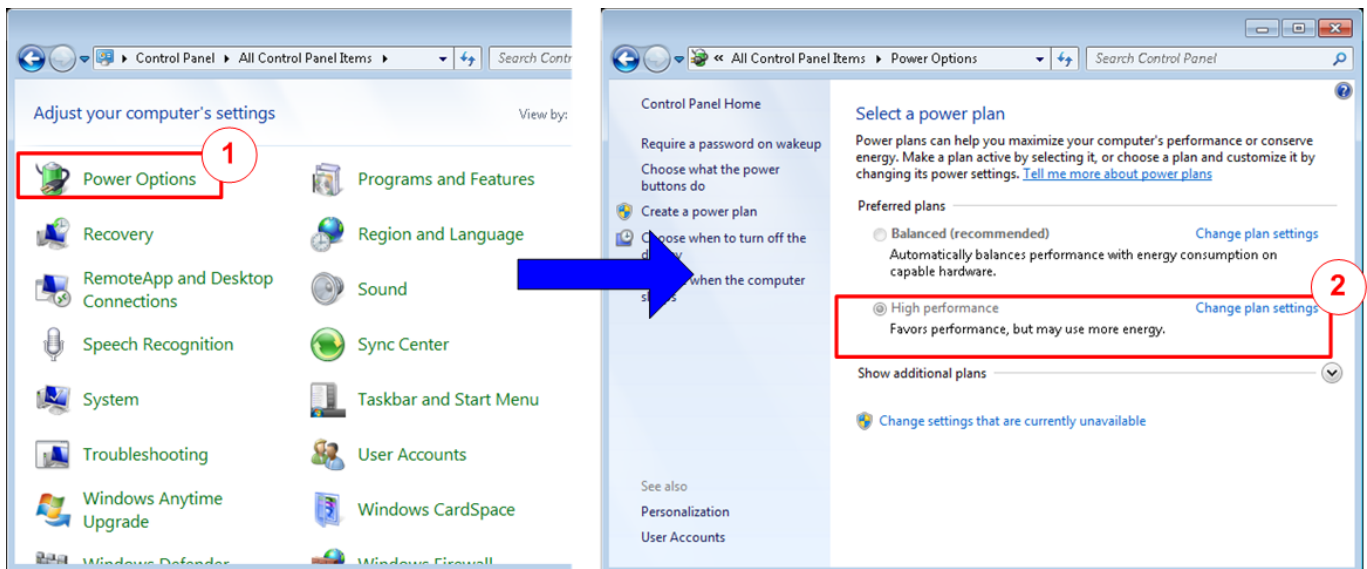

Figure 2-6 Power options
- 1) Open Control Panel and select Power Options as shown on the left window of Figure 2-6.
- 2) Change setting to High Performance as shown on the right window of Figure 2-6.